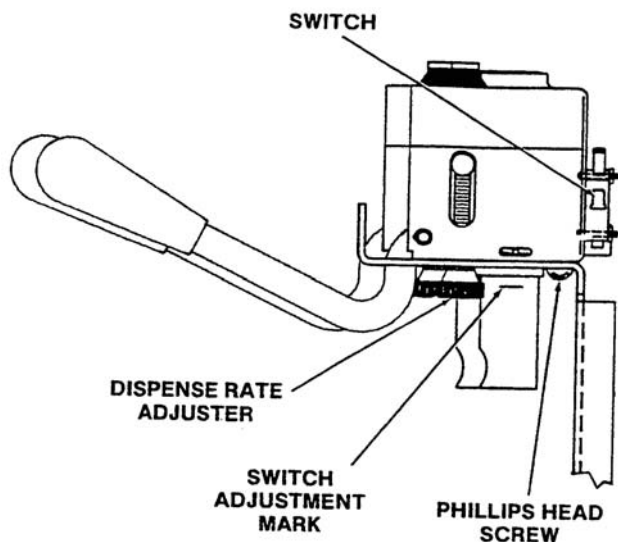

Figure 6-6 Spigot Switch Replacement
2. Remove the dispense rate adjuster knob located below the header panel. (Refer to Figure 6-6)